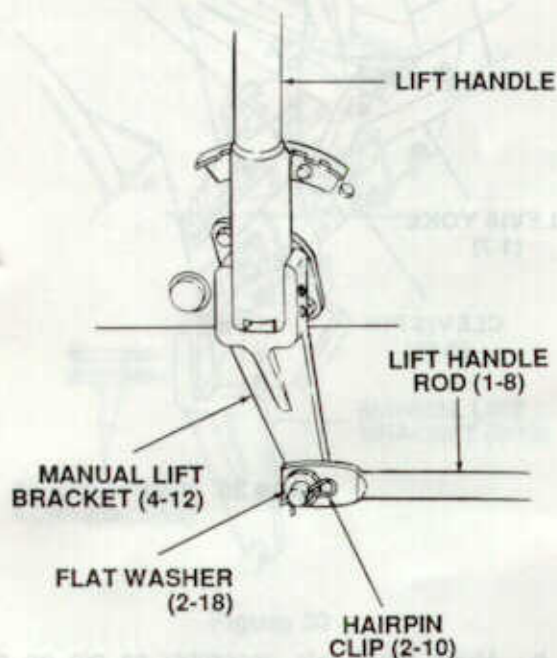

Figure 37
- c. FOR MANUAL LIFT GARDEN TRACTORS, adjust lift handle rod until hole in end of rod lines up with lift bracket pin. Secure with flat washer (2-18) and hairpin clip (2-10). Refer to Figure 37.